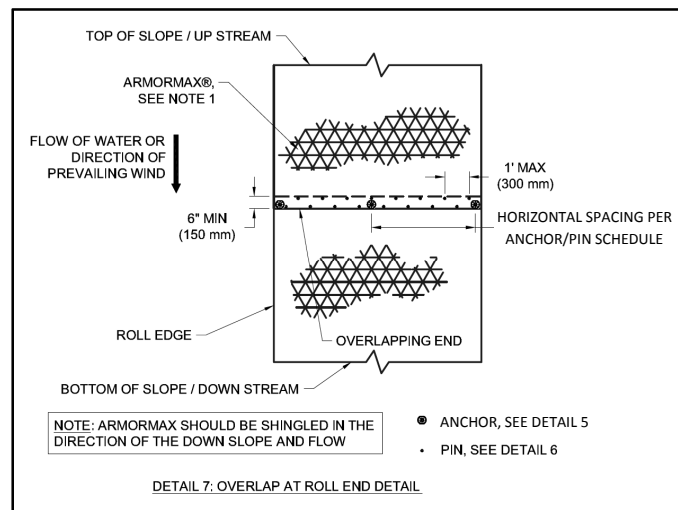

Figure 13: Roll End Overlap
- Roll ends shall be overlapped a minimum of 6 in (150 mm) with upstream panel on top. Secure roll end overlaps with two rows of pins staggered 6 in (150 mm) apart on 12 in (300 mm) centers and with one row of anchors on 4 ft (1.2 m) centers (Figure 13)